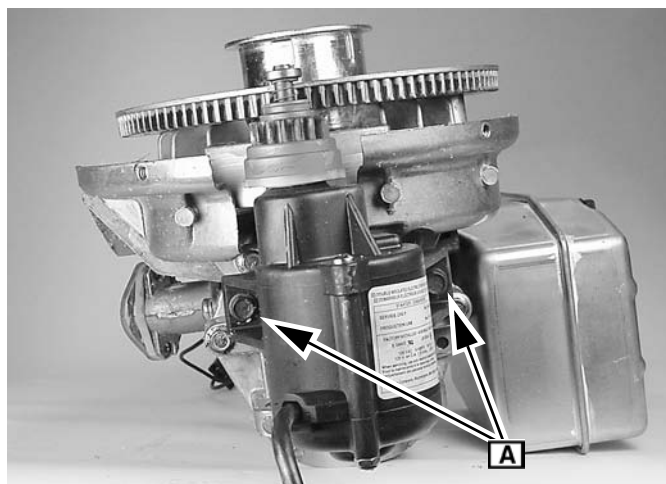

Fig. 22
1. Remove the starter switch, the bolt holding the wire clip, and the two bolts which mount the starter to the engine (Figure 22).